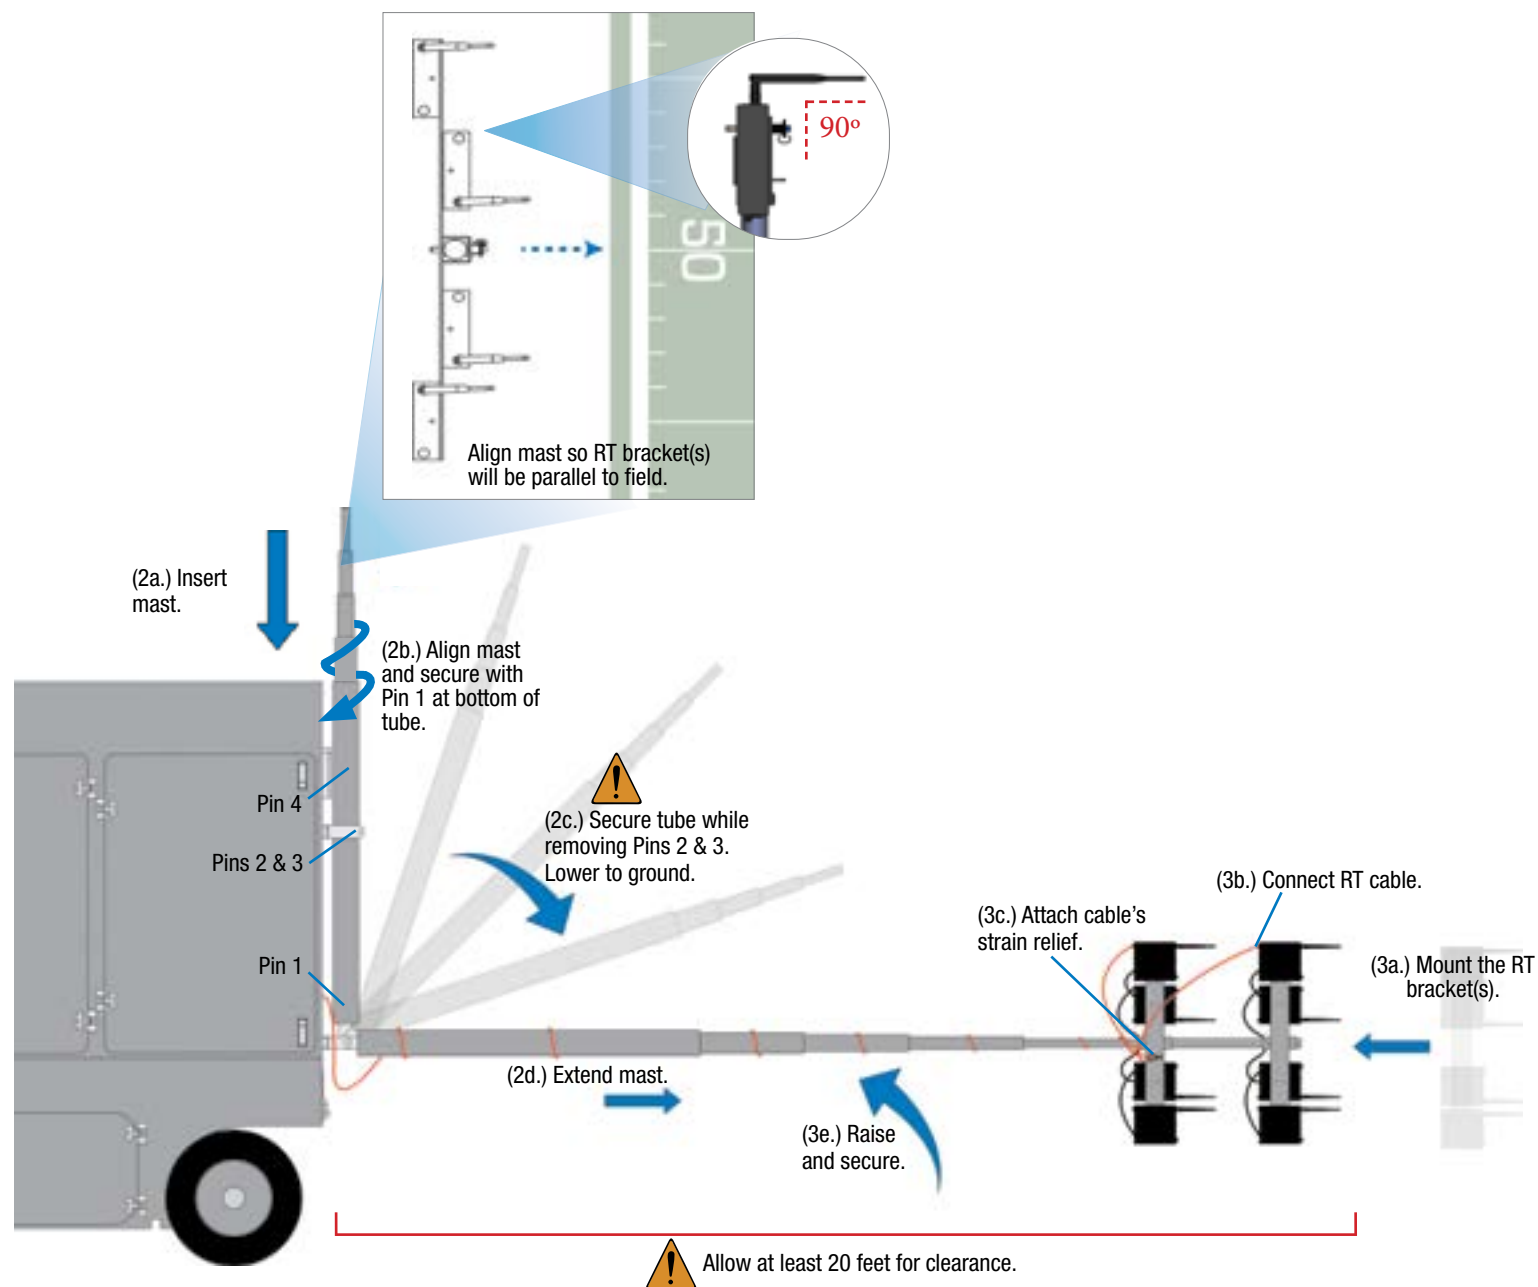

Figure 12: Sideline Cart RT Mast Setup
**Note:** The following steps are referenced in Figure 12 and should be performed with at least two people.